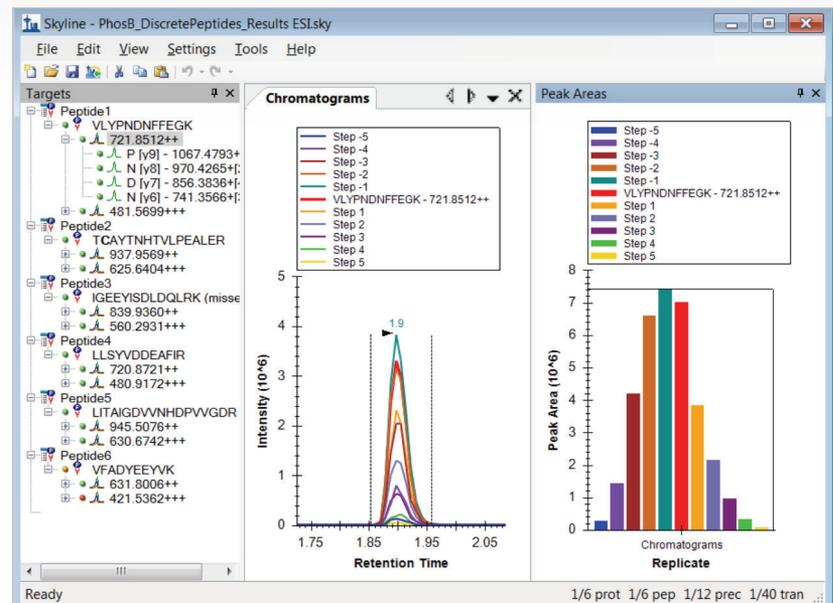

Figure 1. MRM optimization data acquired on the Xevo TQ-XS and imported into Skyline.
Step 1. In Skyline, go to File > Import > Results Add one new replicate and select “Collision Energy in Optimizing. Shift”, click to select all of the optimization injections and import. Once all data is in, you will need to change your view settings. Select View > Transitions > Single (or F10), View > Auto-Zoom > Best peak (or F11), and View > Peak Areas > Replicate comparison (or F7). Figure 1 shows the collision optimization review in Skyline for VLYPNDNFFEGK. The chromatogram overlay shows the results for the various collision energies and the bar graph is the normalized peak area for the injections.